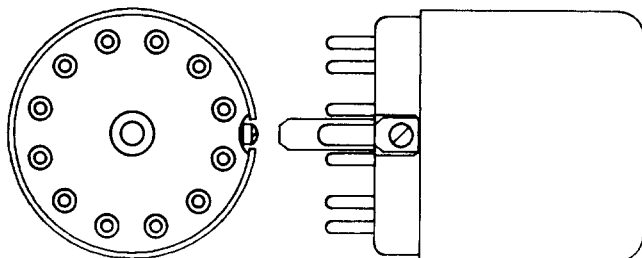

Fig. 11—KS-14769, L1 Connector
2.07 KS-14769, L1: The KS-14769, L1, connector (Fig. 11) consists of a molded phenolic body, equipped with 12 contacts and a metal shell. The connector will mate with the KS-8895 plug receptacle, and is primarily used on the M8E, M11D, M12E, M12F, and M12G cords.